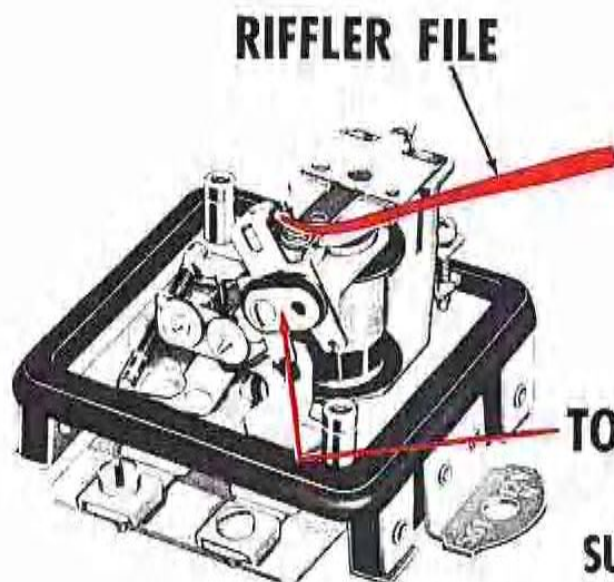

Figure 40
1. If an open transistor was found in the previous check, the large voltage regulator contact must be cleaned with a **spoon or riffer file** as illustrated in Figure 40.